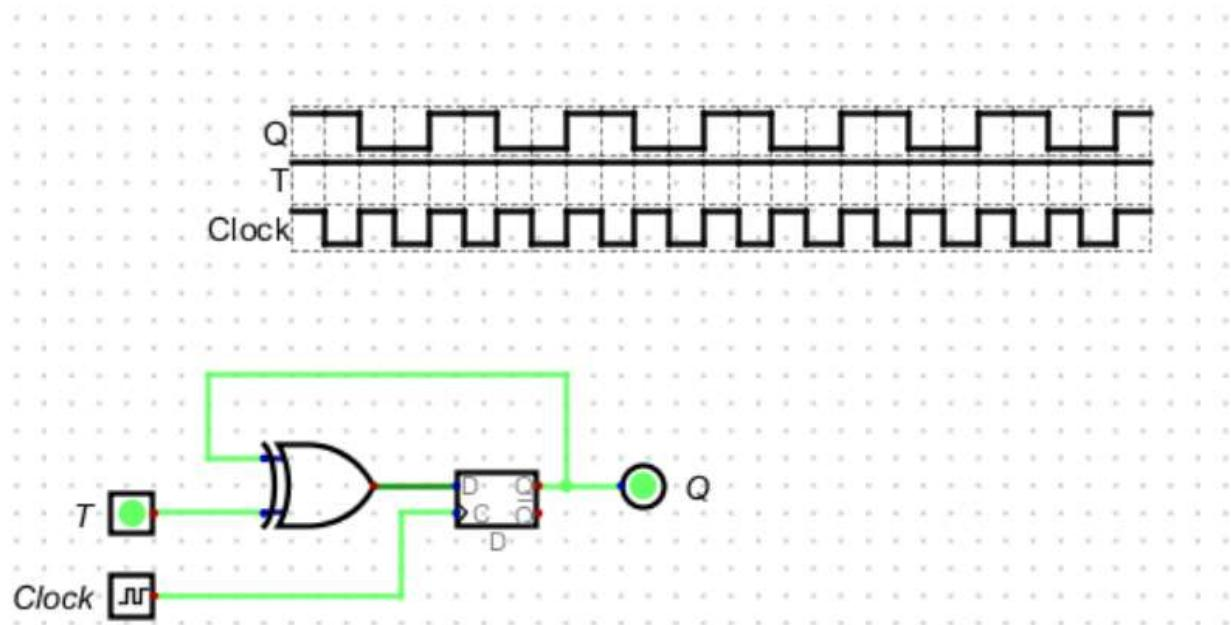

**FIGURE 5.13**
- The T (toggle) flip-flop is a complementing flip-flop and can be obtained from a JK flip-flop when inputs J and K are tied together. This is shown in Fig. 5.13(a).